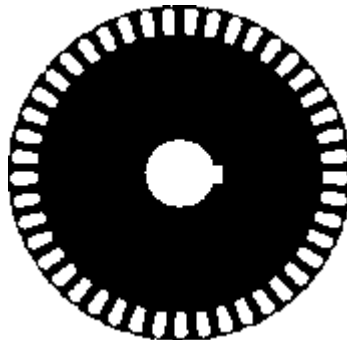

Figure 7
- a laminated silicon steel core having partly closed slots, see figure 7.